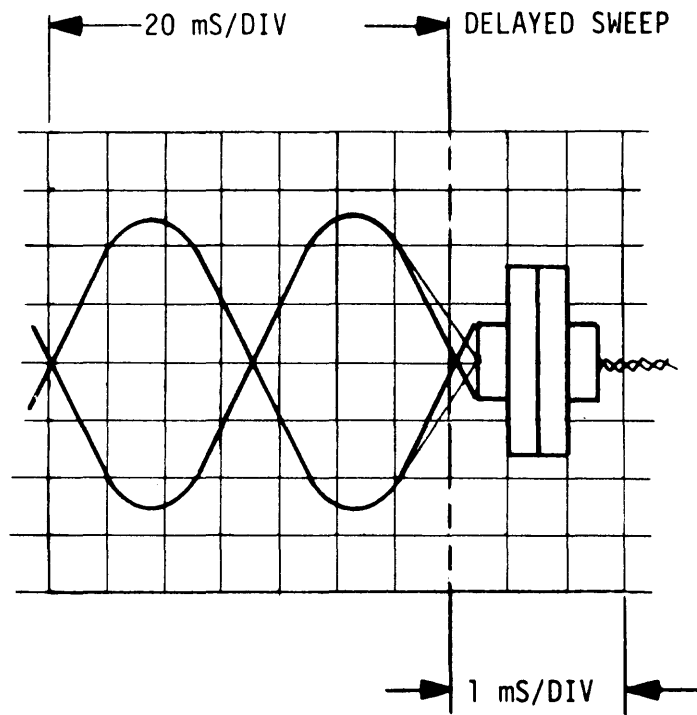

Figure 2-7C. Cat Eyes and Head Azimuth Display
- g. Adjust assembly for correct head azimuth. See Figure 2-7C. Head azimuth is within acceptable tolerance when the data bursts seen on the delayed time base indicate the head is within ± 12 minutes of true position. However, head azimuth interacts with machine azimuth; therefore, for head sector drives best results are obtained by setting head azimuth as close as feasible. This gives best tolerance of parameter variation. If necessary, to meet machine azimuth timing by cancelling tolerances, head azimuth may be relaxed to ± 12 minutes of arc.